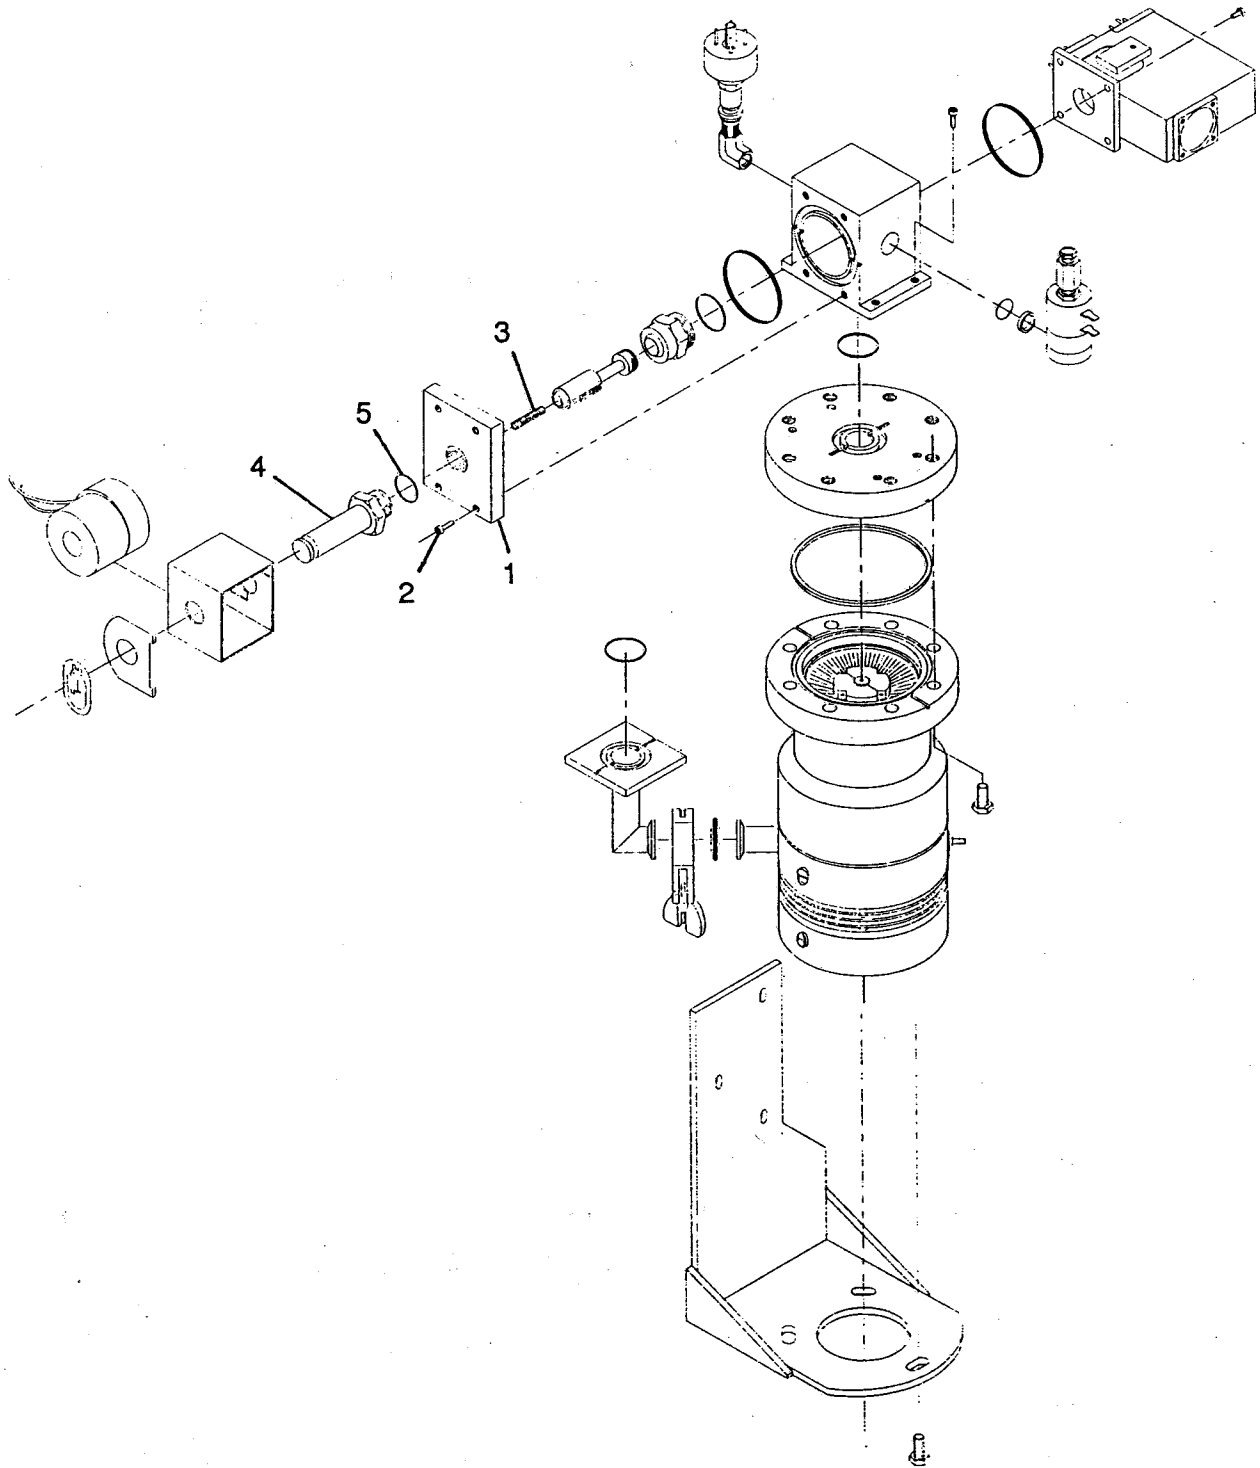

Figure 5-5. Exploded view of the main components of the vacuum system
- 20 An exploded view of the main components of the vacuum system (the turbo pump, the spectrometer tube, the thermocouples, and the valves is shown in Figure 5-5.